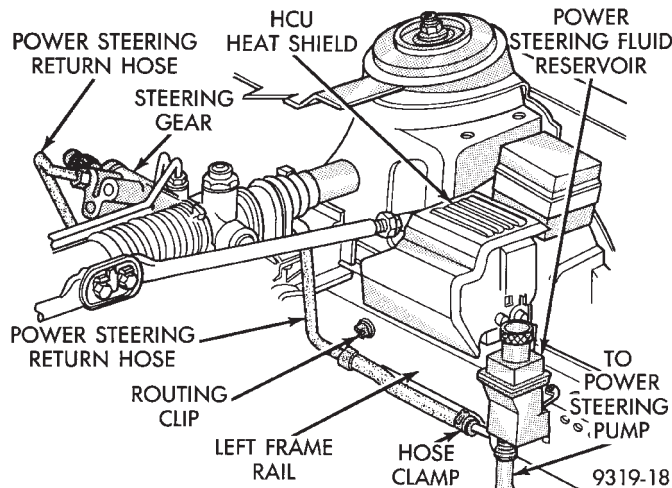
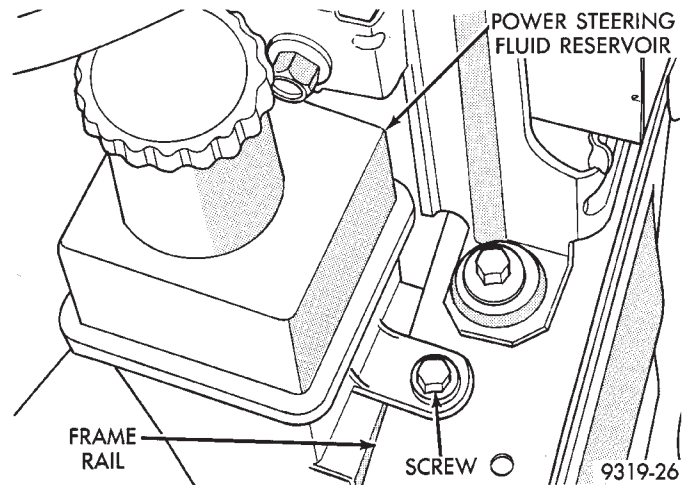

Fig. 7 Power Steering Fluid Reservoir Hoses
Fig. 9 Power Steering Fluid Reservoir Attaching
(1) Raise vehicle on jackstands or centered on a frame contact type hoist. See Hoisting in the Lubrication and Maintenance section of this manual, for the required lifting procedure to be used for this vehicle.
(2) Position drain pan under vehicle for leaking power steering fluid. Loosen and remove power steering return hose (Fig. 7) from side of power steering fluid reservoir. Remove hose from bottom of power steering fluid reservoir going to power steering pump (Fig. 7). Let power steering fluid drain from hoses and reservoir.
(6) Remove screw attaching fluid reservoir to frame rail (Fig. 9). Then remove fluid reservoir from frame rail.
(1) Install power steering fluid reservoir on frame rail. Be sure tab on bottom of fluid reservoir is inserted in hole on frame rail. Install the screw attaching fluid reservoir to frame rail. Torque attaching screw (Fig. 9) to 7 N•m (60 in. lbs.).
(2) Install battery tray back in vehicle. Then install and securely tighten the 4 fasteners attaching battery tray to frame rail and body.
(3) Raise vehicle.
(4) Install power steering return hose onto nipple on side of fluid reservoir (Fig. 7). Install hose going to power steering pump, on bottom nipple of fluid reservoir (Fig. 7). Install the hose clamps, being sure they are past hose retention beads on reservoir nipples.
(5) Lower vehicle.
(6) Install battery.